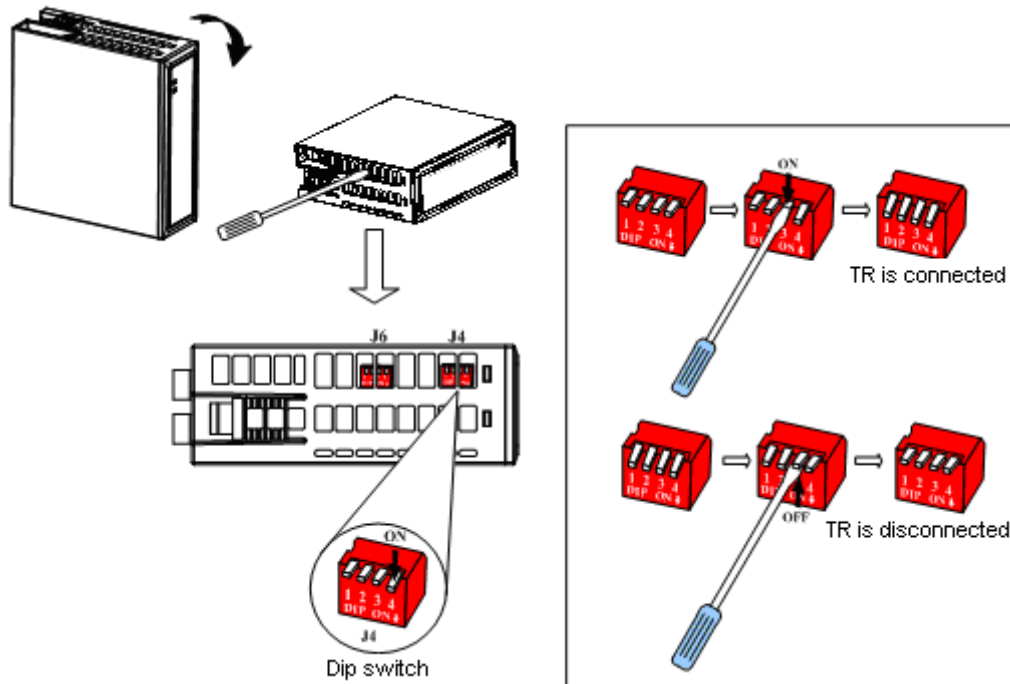

Figure 4.19: Configuration of DIP switches of LK250
- The dip switches are located inside the modules, and the default is such that termination resistors are not connected. To change the switch positions, it is not necessary to disassemble the casing, instead, use a small flathead screw driver to set the dip switches through the heat dissipation holes, as shown in Figure 4.19.